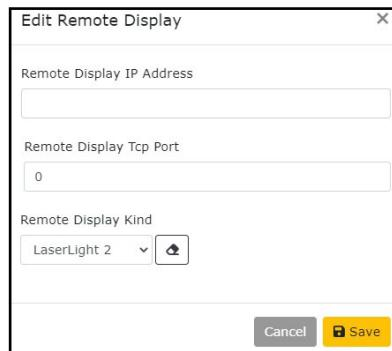

Figure 6-12. Edit Remote Display Window
6. Select **Save** (see Figure 6-12 on page 81).